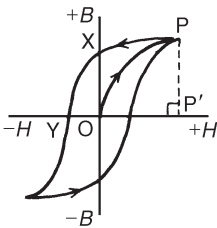

Figure 7.6
**Hysteresis** is the ‘lagging’ effect of flux density  $B$  whenever there are changes in the magnetic field strength  $H$ . When an initially unmagnetized ferromagnetic material is subjected to a varying magnetic field strength  $H$ , the flux density  $B$  produced in the material varies as shown in Figure 7.6, the arrows indicating the direction of the cycle. Figure 7.6 is known as a **hysteresis loop**.
From Figure 7.6, distance  $OX$  indicates the **residual flux density** or **remanence**,  $OY$  indicates the **coercive force**, and  $PP'$  is the **saturation flux density**.